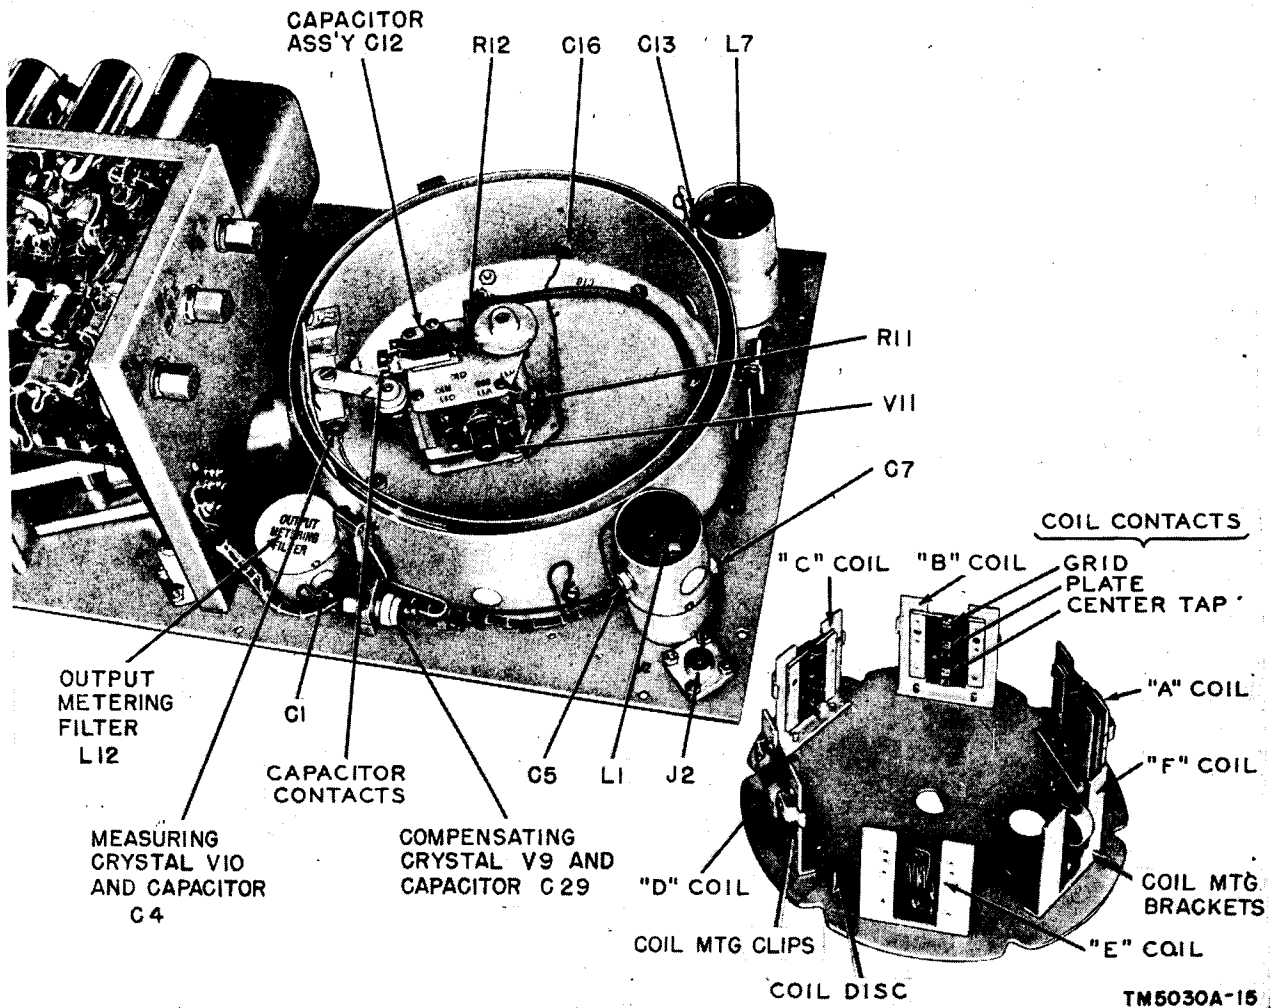

Figure 21. Oscillator assembly.
Caution: Do not rotate the coil disk before visually checking the alinement of the three coil contacts with respect to the contact posts on the capacitor assembly C 12 (fig. 21). Misalignment of these coil contacts, caused by improper seating of the coil disk on its bushing, will cause serious damage to the contacts.
The carrier oscillator tube, V11, is located on the side of the capacitor assembly, C12, (fig. 21). Replace as follows:
a. The measuring crystal V10 (fig. 21) can be replaced in the following manner:
- (1) Remove the drum shields and coil disk (par. 52).
- (2) Unscrew the crystal holder cap which contains bypass capacitor C4. The holder is mounted on the attenuator measuring tube.
- (3) Remove the crystal by pulling it straight out.
- (4) Replace the crystal and capacitor cap.
- (5) Check the pickup lead from the crossbar of the middle tube for a possible short after replacement of the crystal.
a. With the modulation selector switch in the OFF position, connect a high resistance d-c voltmeter between Capacitor C5 (fig. 21) and the chassis. Multiply the value obtained (approx. 175 volts) by the factor 0.212. Remove the d-c meter.